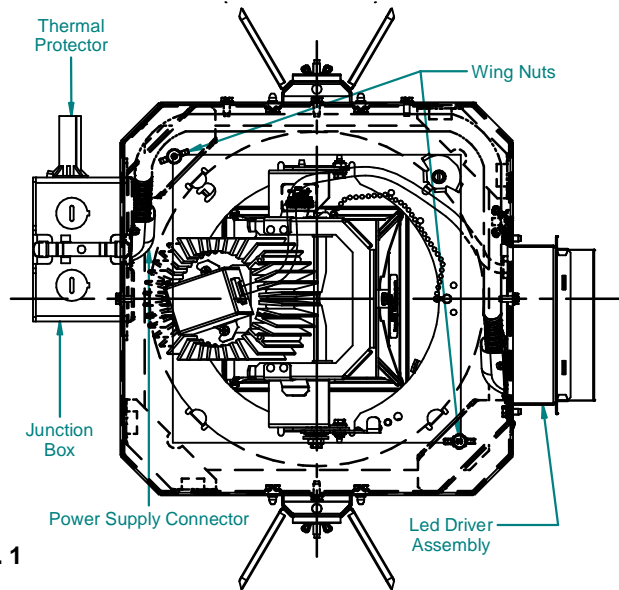

Fig. 1
3. If alignment of square aperture is required, with trim removed, loosen (2) wing nuts. Align aperture. Tighten wing nuts. (See Figs. 1 & 2)